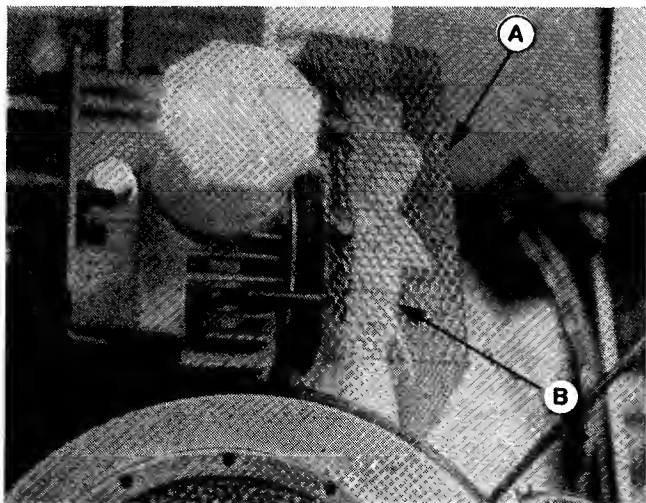

Figure 22.
2. Remove the screen (A, figure 22) by removing two screws at top and two screws at bottom.
3. Remove the fan (B, figure 22) by removing one screw in center. Keep washers in order for correct reassembly.
7. Note that a tab on inner side of fan (B, figure 22) fits into a hole when fan is installed. Install fan with original hardware.
8. Install screen (A, figure 22) with two screws at top and two screws at bottom.